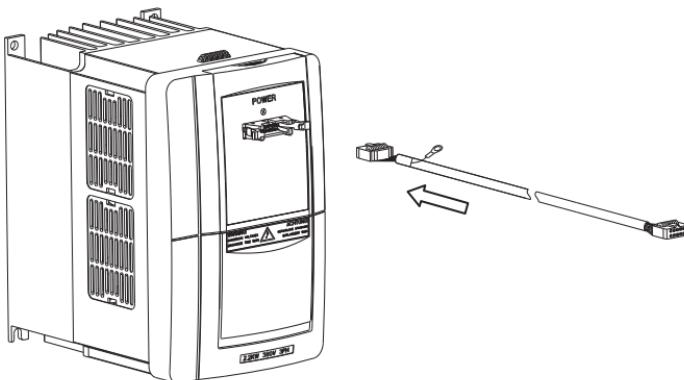

Fig. 3-10 Mounting Diagram for the operator panel and connecting wire of the inverter Model A
**Step 3.** Insert the optional cable with the grounding side into the slot of interface board .(as shown in Figure 3-10).